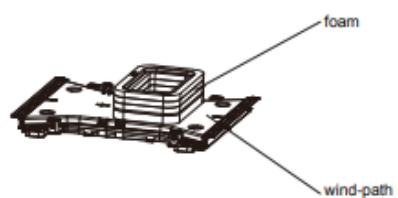

Figure 5-2
5. Before installing the air duct assembly of the indoor unit of recreational vehicle air conditioner, assemble the foam assembly according to the thickness of the vehicle's top. After simulated installation, use an appropriate amount of sponge and foam assembly. Stick the sponge and foam assembly with double faced adhesive tape (prepared by user) (See Figure 5-1, Figure 5-2)